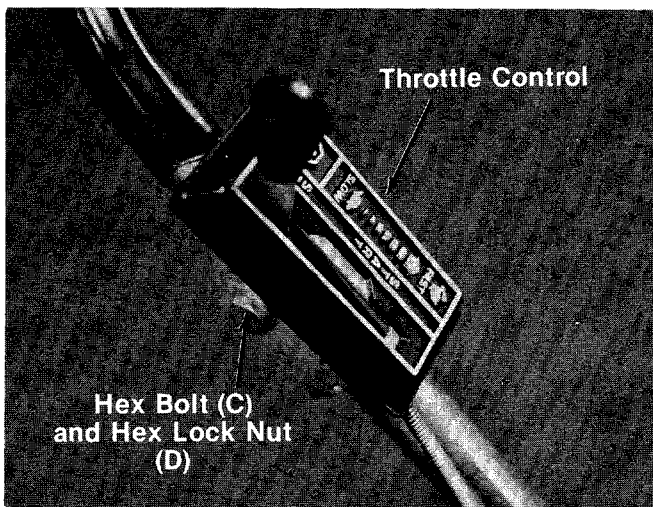

FIGURE 5.
- Place the throttle control in position on the left hand side of upper handle. Secure with hex bolt (C) and hex lock nut (D) provided. See figure 5.